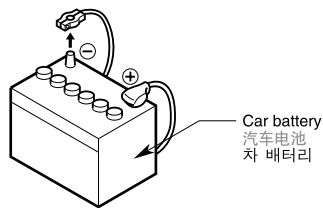

Figure 1 / 图 1 / 그림 1
- Be sure to disconnect the battery "⊖" terminal before starting. This is to prevent short circuits during installation. (Figure 1)
- 开始之前请务必断开电池的“⊖”端子，以免在安装中造成短路。(图1)